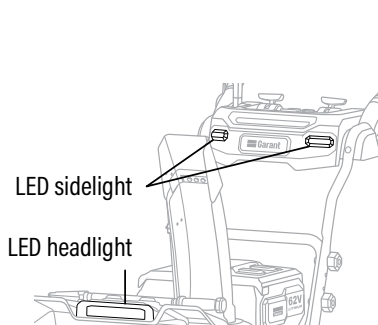

Fig. 11A
1. The LED sidelights are located on both left and right of the handle assembly. The LED headlights are located on the front of the snow housing. (Fig. 11A)